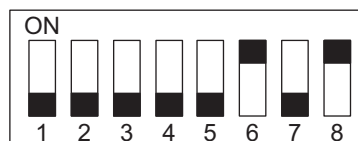

Fig. 3-115
- (3) Adjust the rear jogging plate to the home position.
- Set SW1 on the finisher controller PC board as shown in Fig. 3-115.